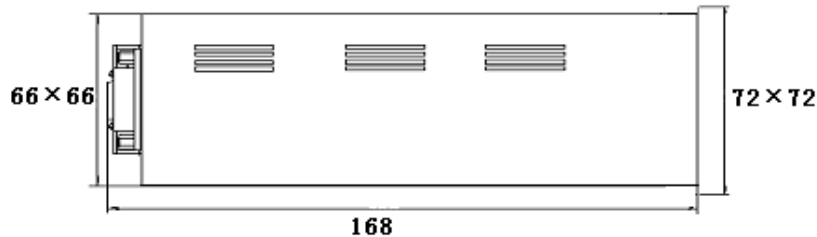

Figure1. Dimensions of D08-1GM
4.1 Dimensions are showed in figure 1: